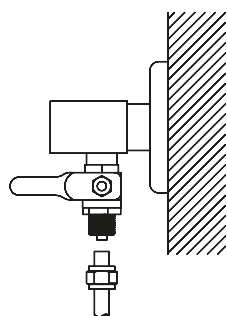

Figure 8. Mains inlet valve
- Mains water is supplied to the system by opening the 1/4 ball valve (Figure 8). It is seen that the pump is running.\*\*
- When there not anyone in the house, close the water inlet valve of the appliance for safety purposes (Figure 8).
- In any unfavorableness (Figure 8) close the water inlet valve and consult authorized service.